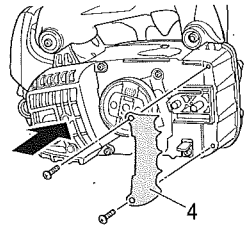

Fig. 3
* In case of installing the spiked bumper (4), install the spiked bumper (4) to the unit with two screws. (Fig. 3)